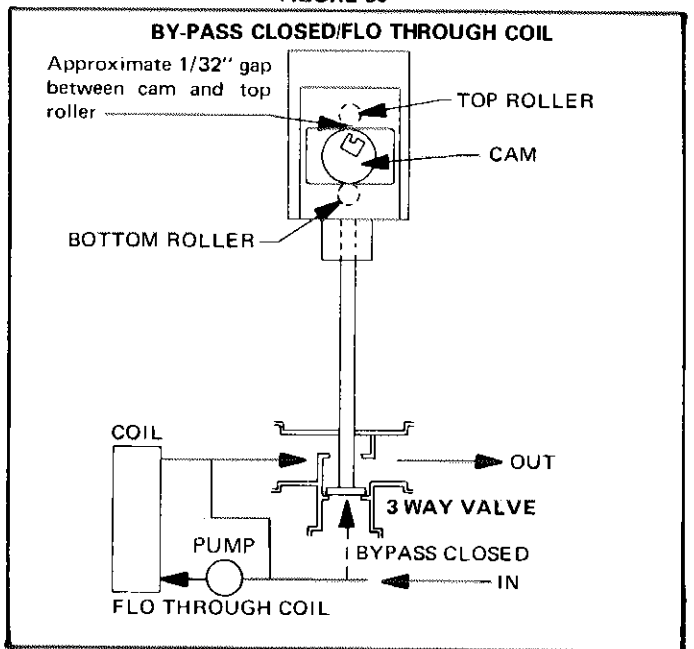

FIGURE 51
- 3 - Remove the jumper installed in step 2. Motor shaft should rotate counterclockwise, lowering valve stem. Refer to Figure 51.